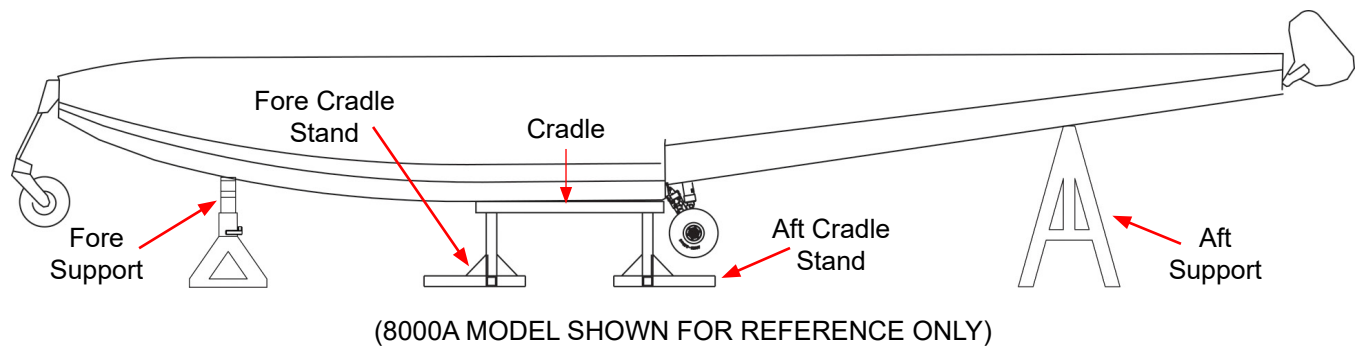

FIGURE 1-12: FLOAT SECURING LOCATIONS OVERVIEW
1. Raise aircraft high enough to place float cradle under floats as shown in Figure 1-12.
2. Lower aircraft onto float cradle as shown in Figure 1-12.
3. Place fore and aft supports as shown in Figure 1-11 and Figure 1-12.
4. Secure floats with fore and aft supports as shown in Figure 1-11 and Figure 1-12.
5. Remove all fore and aft supports as shown in Figure 1-11 and Figure 1-12.